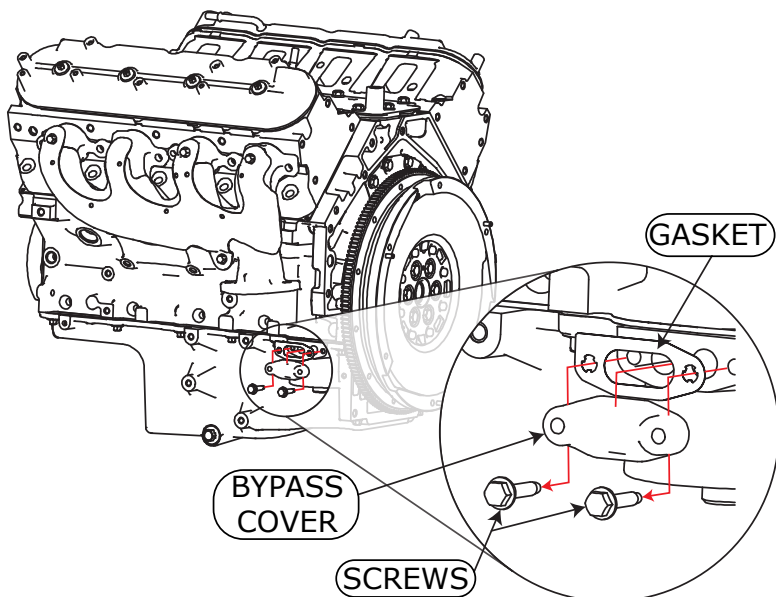

Figure 4 - Removing the factory bypass cover
4. Remove the two bypass cover or factory oil cooler (if equipped) flange screws with a 10 mm socket or wrench. Be sure to remove the factory gasket, shown in Figure 4.